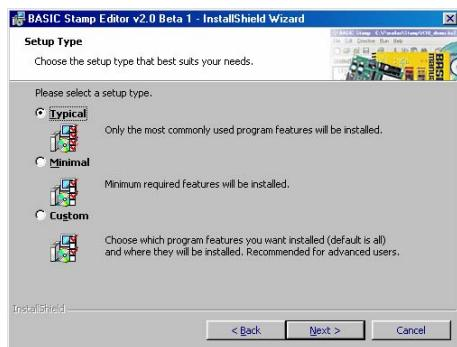

Figure 1-15
- ✓ Select Typical for your setup type as shown in Figure 1-15.